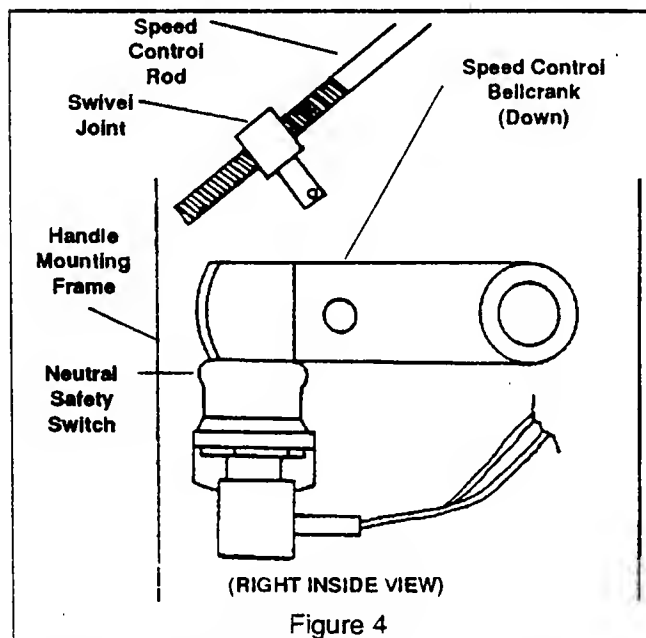

Figure 4
- b) Insert end of swivel joint through hole in speed control bellcrank and secure with hair pin cotter. Rotate bellcrank forward and down (See figure 4).